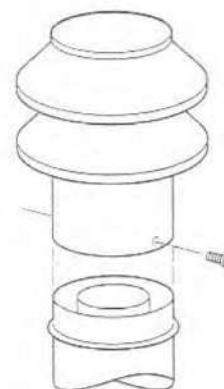

Figure 20
K. The final step involves installation of the DST-VTK termination kit. Extend the vent sections to height defined by the applicable gas appliance code, or as indicated by the Gas Vent Rule. Center the termination over the last vent section and slip down over both tubes. Engagement (overlap) should be a minimum of 1-1/4" (32 mm) (Figure 20).